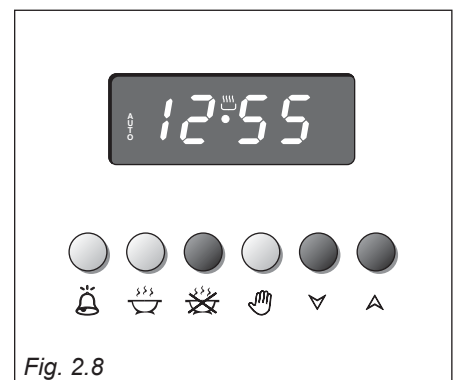

Fig. 2.8
2. Set the time you need the food to stop cooking by pushing the  button and the  button to advance, or  to go backwards if you have passed the desired time (Fig. 2.8).